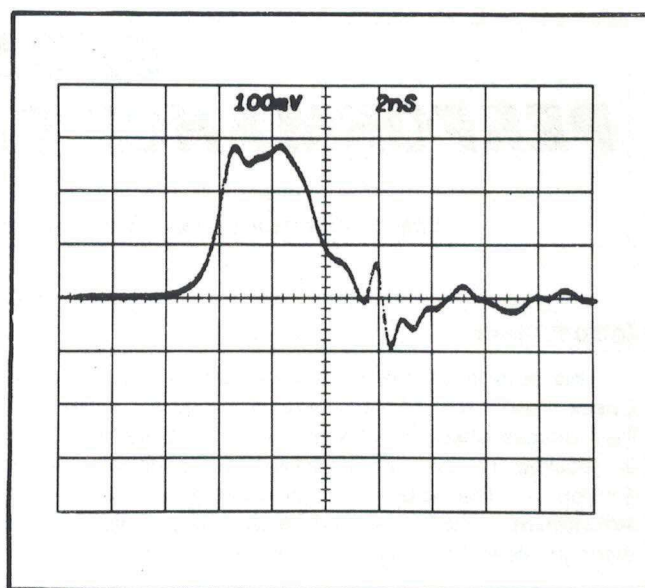

Fig. 5-1. Pretrigger Out.
b. Set the 7T11 Trig Level for a stable display and use the Time Position control to position the PRETRIG OUT display to the left edge of the graticule. Change the 7T11 Time/Div to 2 ns for a display of the PRETRIG OUT signal. See Fig. 5-1.
c. Set the 7T11 Trig Level for a stable display and use the Time Position control to position the Pretrigger Out display to the left edge of the graticule. Change the 7T11 Time/Div to 2 ns for a display of the Pretrigger Out signal. See Fig. 5-1.